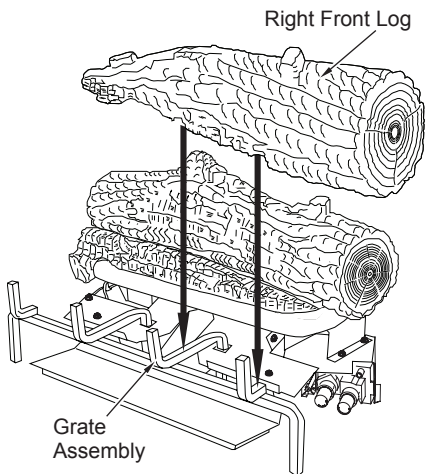

Figure 51 - Installing Right Front Log
- Place the right front log onto the base and grate assembly as shown in Figure 51. The log has notches in the bottom for the grate.